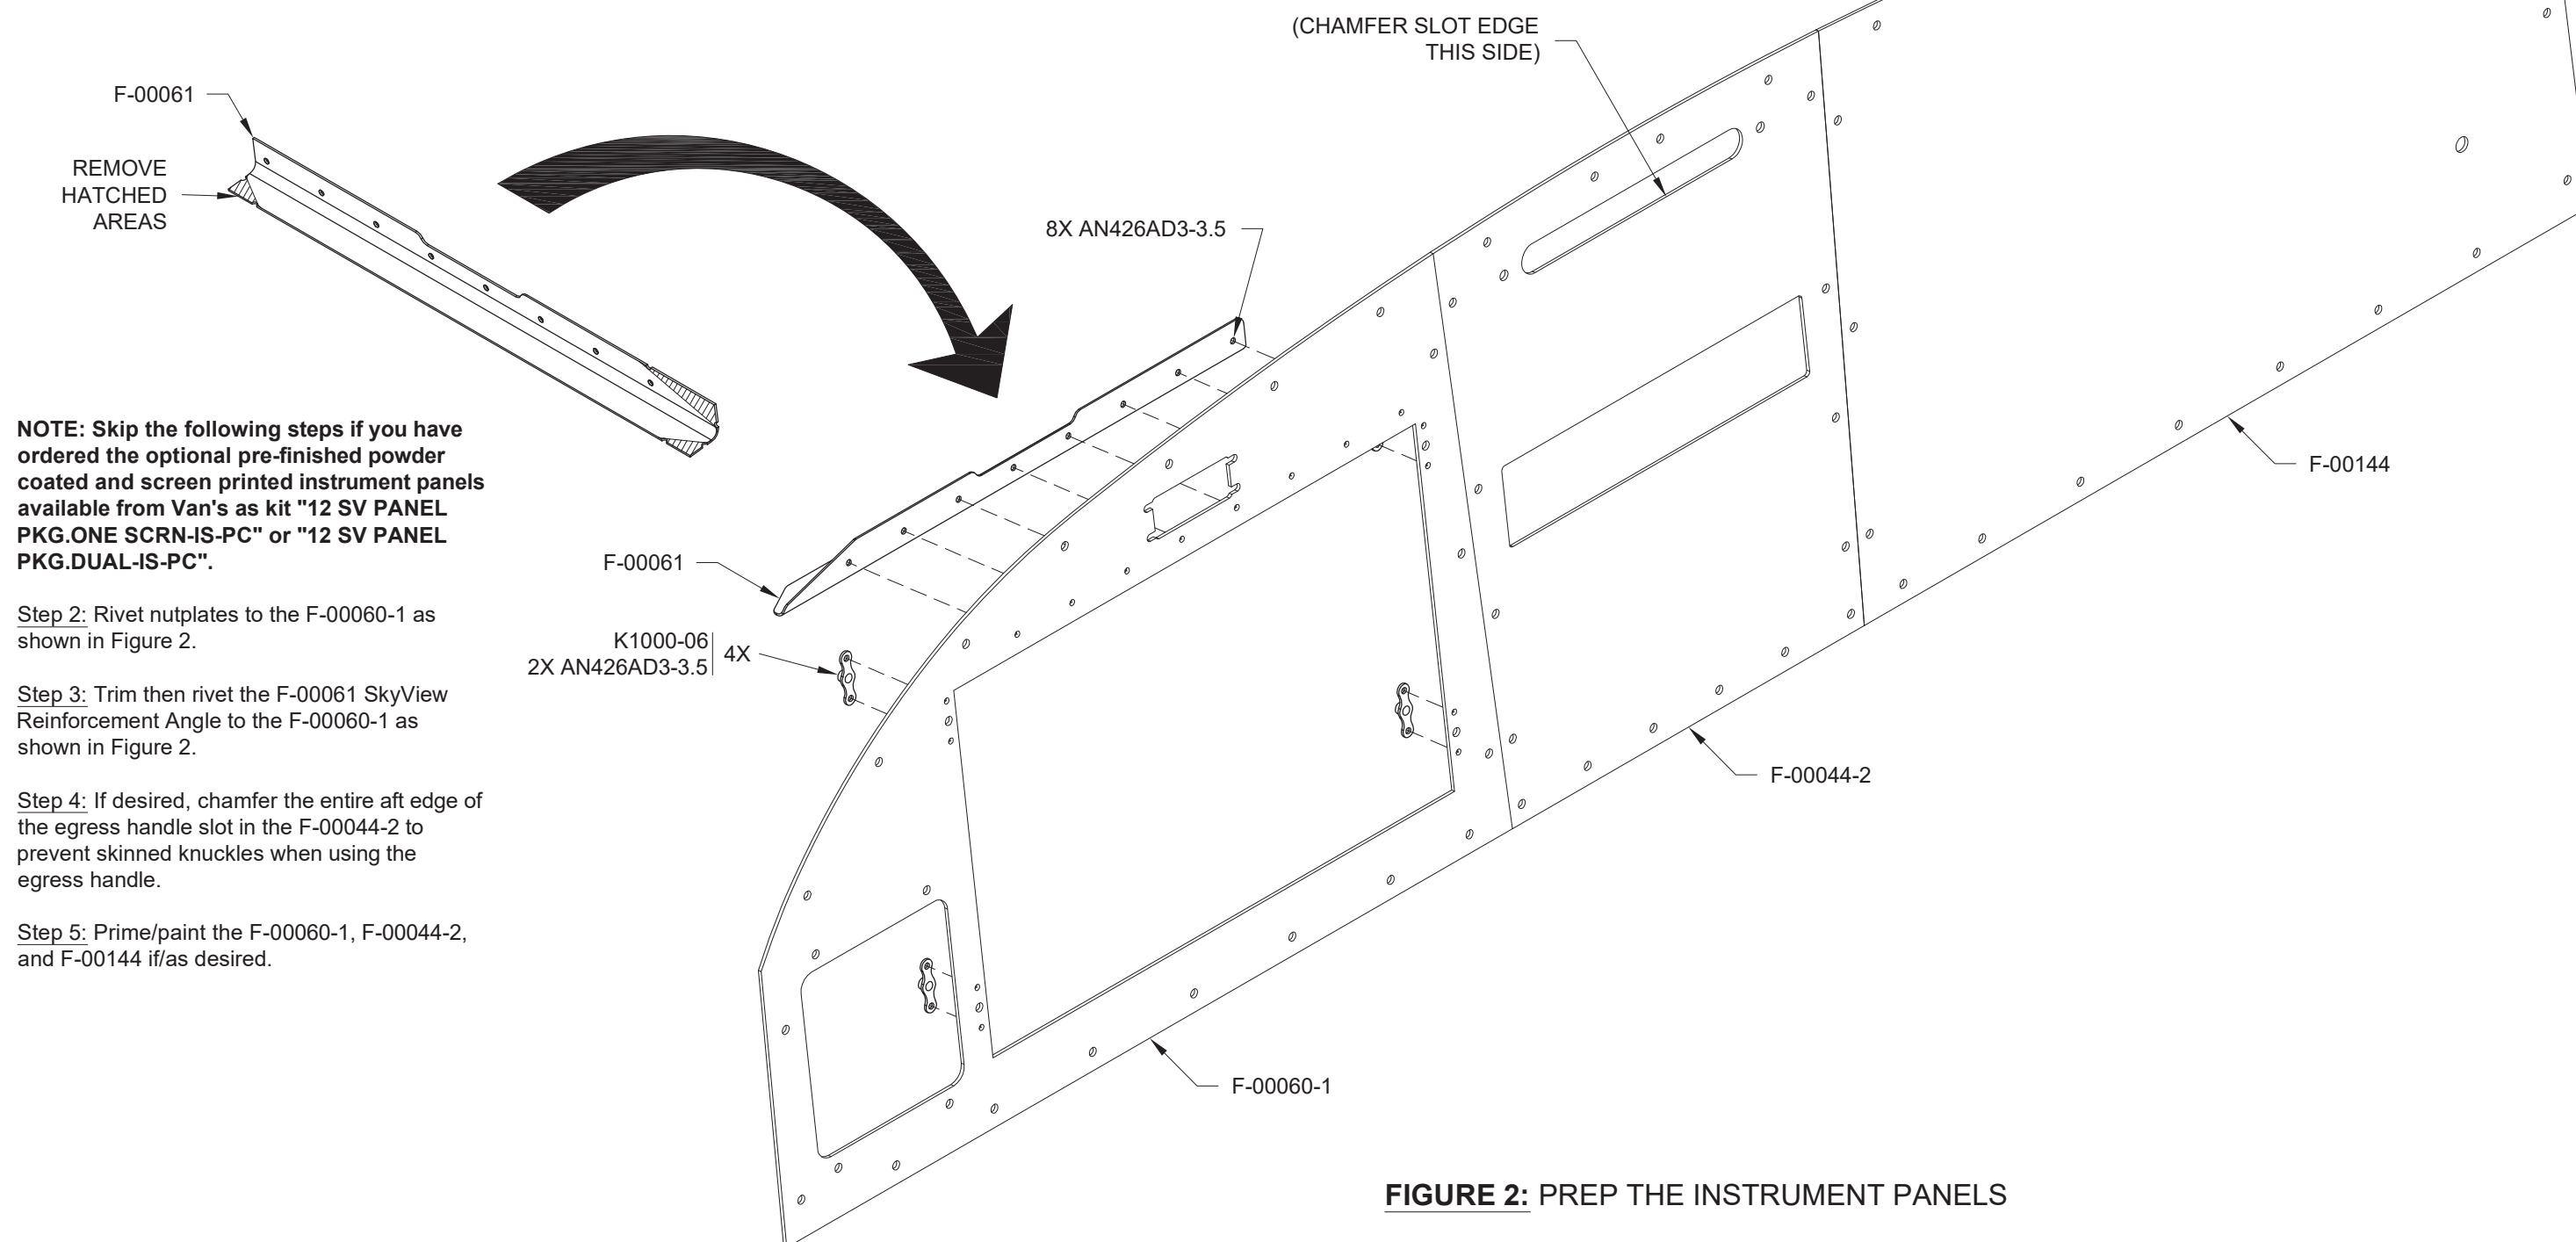

FIGURE 2: PREP THE INSTRUMENT PANELS
Step 2: Rivet nutplates to the F-00060-1 as shown in Figure 2.
Step 3: Trim then rivet the F-00061 SkyView Reinforcement Angle to the F-00060-1 as shown in Figure 2.